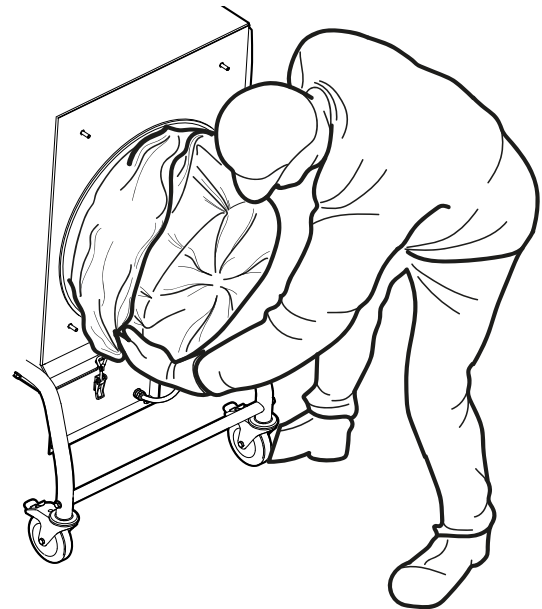

Fig. 21
8. Pull the filter bag CMF PCW3 over the filter cartridge (**Fig. 21**). Make sure the filter bag does not fasten on the brushes under the filter cartridge.